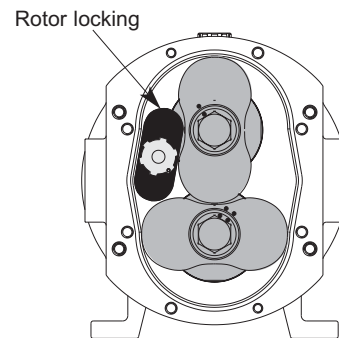

Figure 10
4. Position the rotor locking tool **111** as shown in figure 10, and then undo the bearing lock nut **38** from the drive shaft **29**.